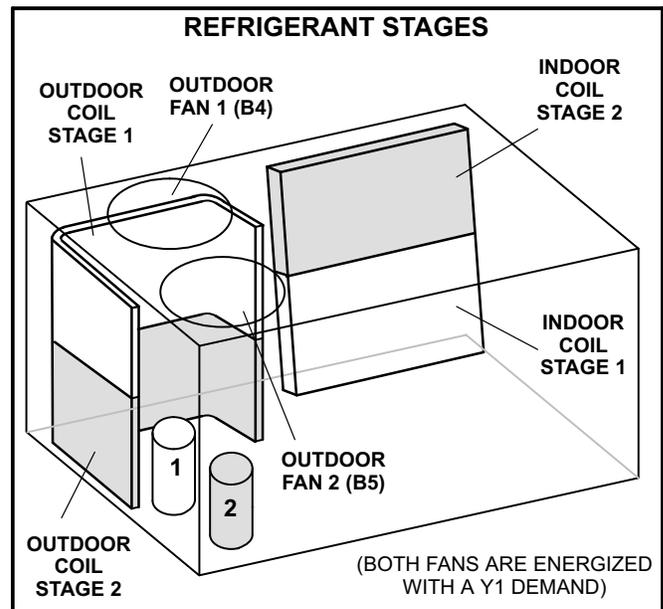

FIGURE 15
- 3- Units contain two refrigerant circuits or stages. See figure 15.